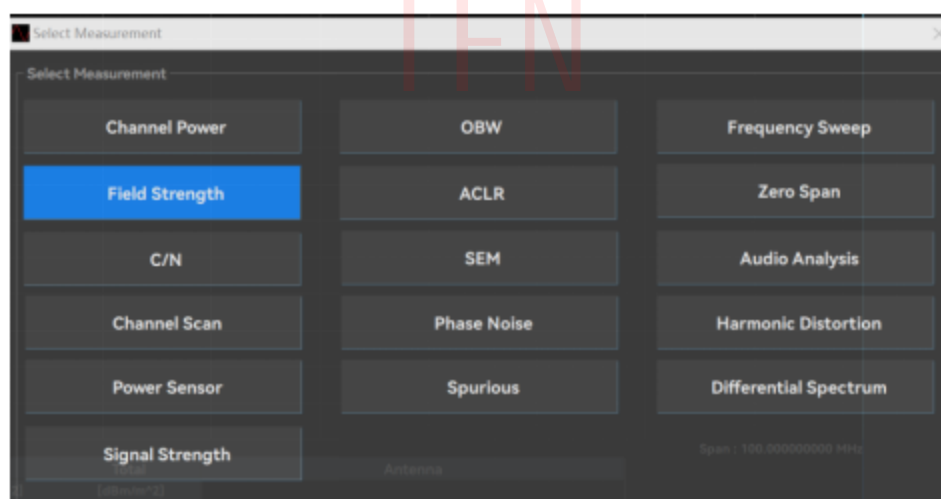

Figure 5.11 Select the measurement interface diagram
- Press [Measurement], select [field strength] test function, and the interface displays as shown in Figure 5.11